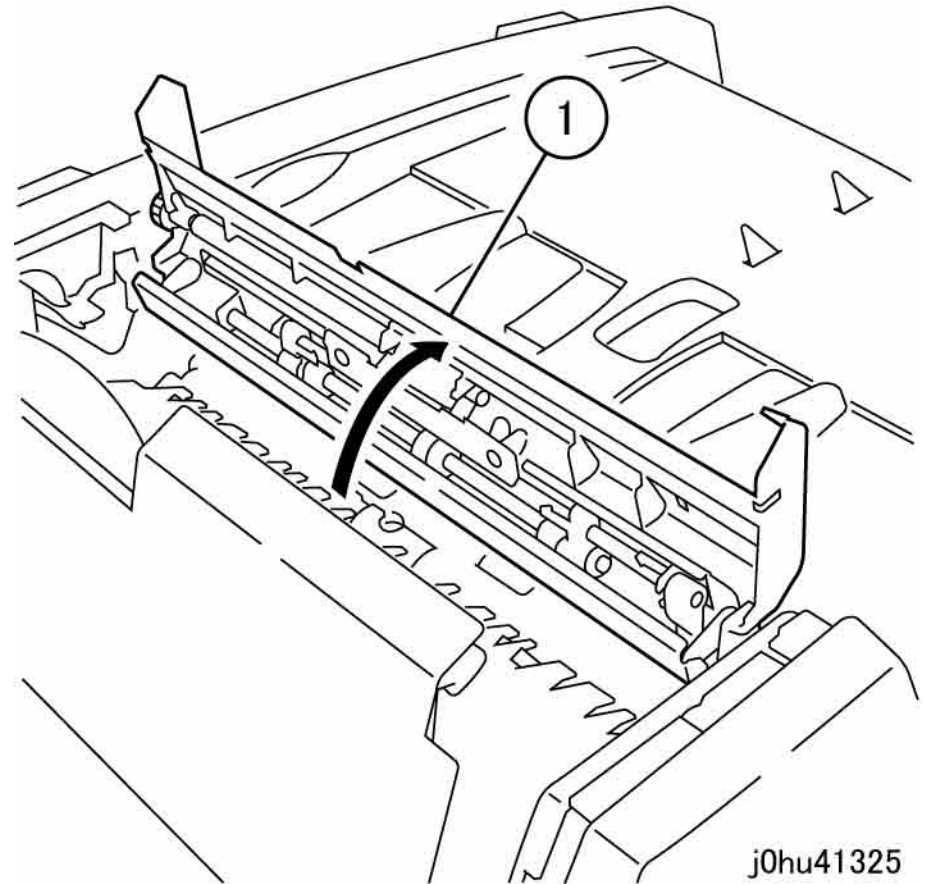

Figure 1 Open the Retard Roll Assembly
2. Open the Retard Roll Assembly (Figure 1).